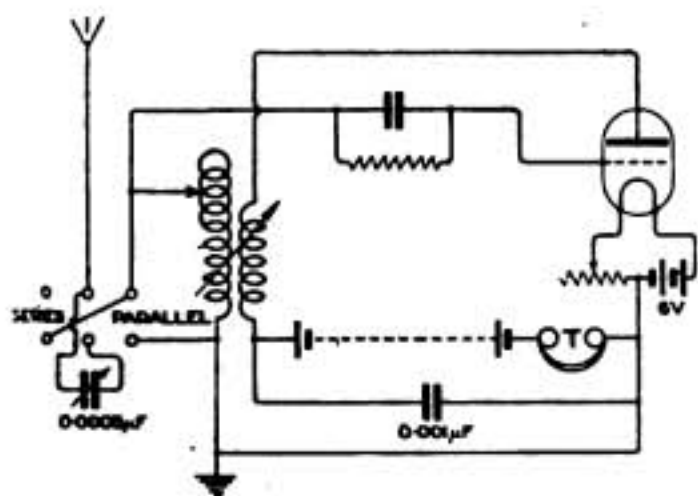

Fig. 1.
(1) The apparatus may be arranged as shown in diagram (Fig. 1). (2) The best values depend upon the type of valve used, but the following will generally be satisfactory: grid condenser 0.0003 mfd. and leak 2 megohms. (3) "The Construction of Amateur Valve Stations," by Alan Douglas (1s. 6d.), The Wireless Press.